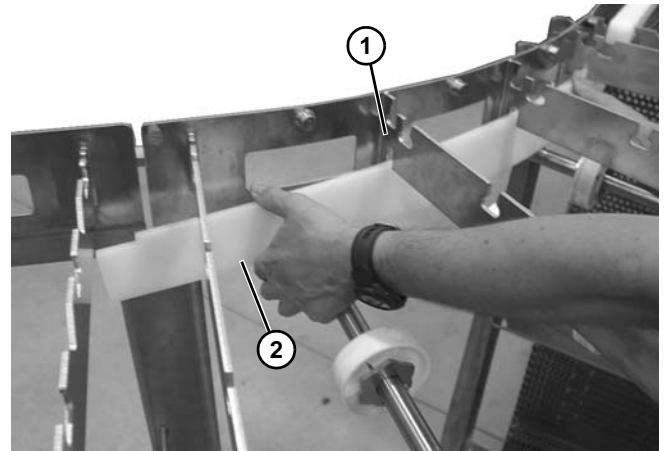

**Figure 52**
2. Remove worn wear strips (**Figure 52, item 1**) from the frame notches.
3. Attach new wear strips by installing the locating slot (**Figure 52, item 2**) onto the bracket tab (**Figure 52, item 3**) on the crossmember.